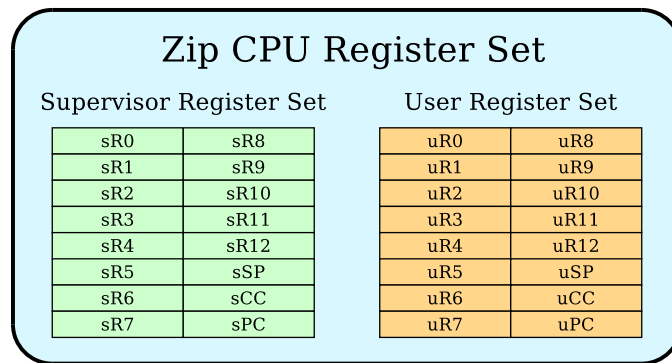

Figure 2.1: Zip CPU Register File
The Zip CPU supports two sets of sixteen 32-bit registers, a supervisor and a user set as shown in Fig. 2.1. The supervisor set is used in interrupt mode when interrupts are disabled, whereas the user set is used otherwise. Of this register set, the Program Counter (PC) is register 15, whereas the status register (SR) or condition code register (CC) is register 14. By convention, the stack pointer will be register 13 and noted as (SP)—although there is nothing special about this register other than this convention. The CPU can access both register sets via move instructions from the supervisor state, whereas the user state can only access the user registers.